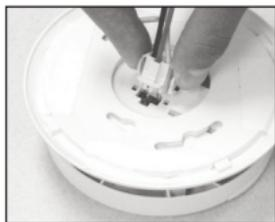

FIGURE 7
4. Plug the AC QUICK CONNECTOR into the back of the alarm (see Figure 7), making sure that the locks on the connector snap into place. Then push the excess wire back into the electrical box through the hole in the center of the mounting bracket.
To remove the alarm from the trim ring, rotate the alarm counter clockwise in the direction of the "OFF" arrow on the cover. To disconnect the A.C. power harness, squeeze the locking arms on the sides of the Quick Connector while pulling the connector away from the bottom of the alarm (see Section 3, Figure 7).